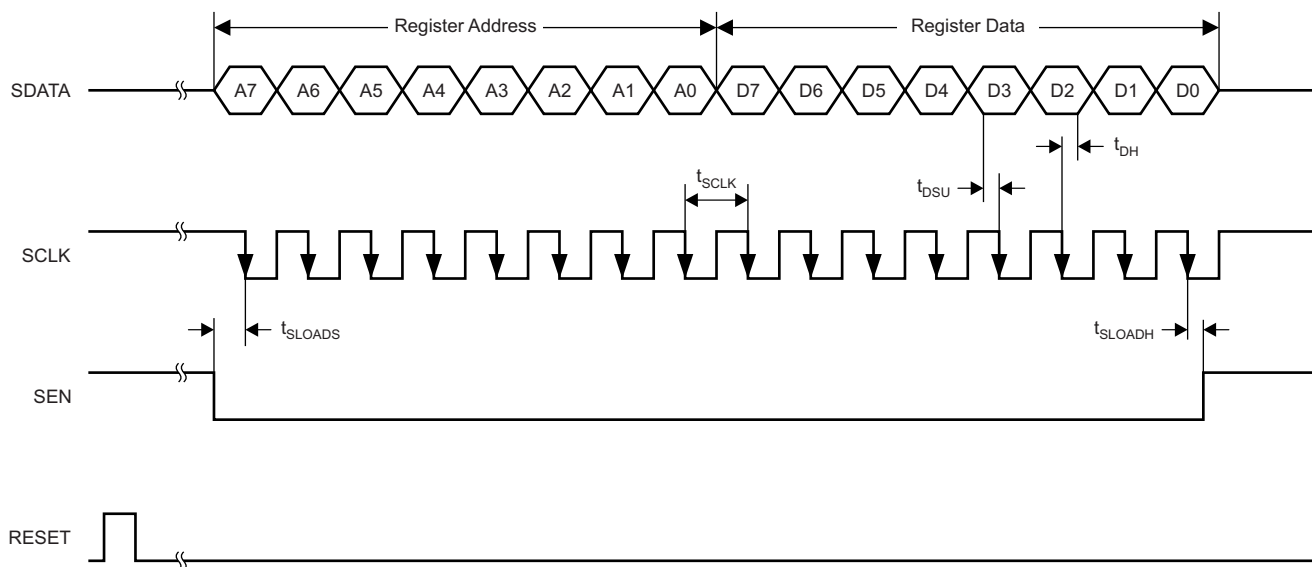

Figure 40. Serial Interface Timing
1. Either through a hardware reset by applying a high pulse on the RESET pin (of widths greater than 10 ns), as shown in Figure 40; or
Table 3. Timing Characteristics for Figure 40